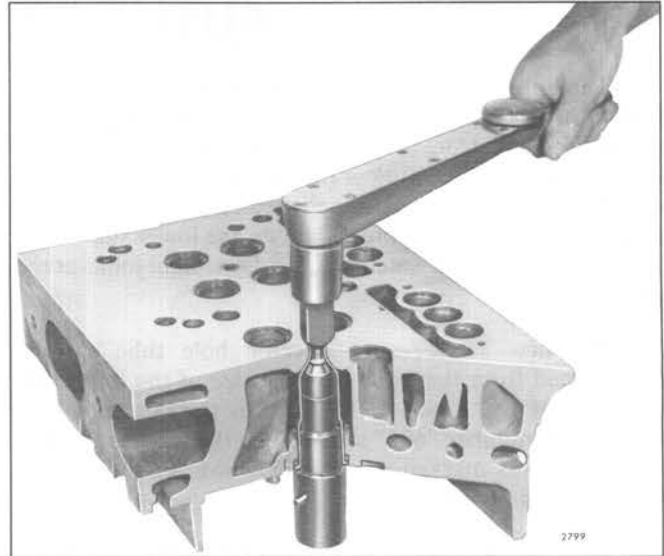

Fig. 3 - Upsetting Injector Tube with Tools J 5286-4C and J 5286-6
- a. Turn the cylinder head bottom side up, remove the pilot J 5286-5 and thread the upsetting die J 5286-6 into the tapped end of the installer J 5286-4C (Fig. 3).